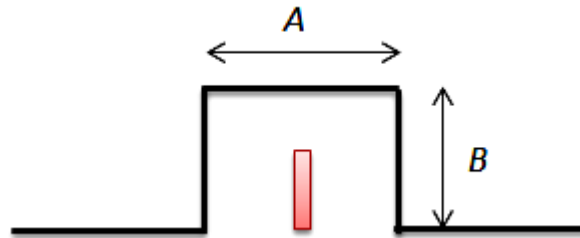

Figure 6.3: Recess housing measurement
The recess housing is measured as shown in Figure 6.3 where A is the horizontal width and B is the vertical depth. Each of the concealed sprinkler heads are simulated under minimum and maximum recess housing. This means that for minimum recess housing installation, the vertical depth (B) is at its minimum depth. Maximum recess housing installation refers to the vertical depth (B) is at its maximum depth.